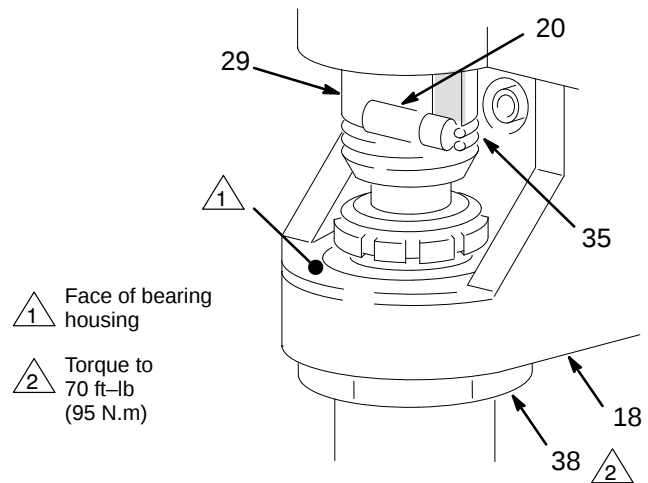

Fig 27
15. Screw the displacement pump about 3/4 of the way into the drive housing (18). Hold the pin (20) up to the pin hole in the connecting rod assembly (29) and continue screwing in the pump until the pin slides easily into the hole. Back off the pump until the top threads of the pump cylinder are flush with the face of the drive housing and the outlet nipple (46) is facing back. Push the retaining spring (35) into the groove all the way around the connecting rod. Tighten the locknut (38) very tight – about 70 ft-lb (95 N.m) – with a 1-3/4 in. open end wrench and a light hammer. See Fig 27 and 28.
Be sure the retaining spring (35) is firmly in the groove all the way around, to prevent the pin (20) from working loose due to vibration. See Fig 27.